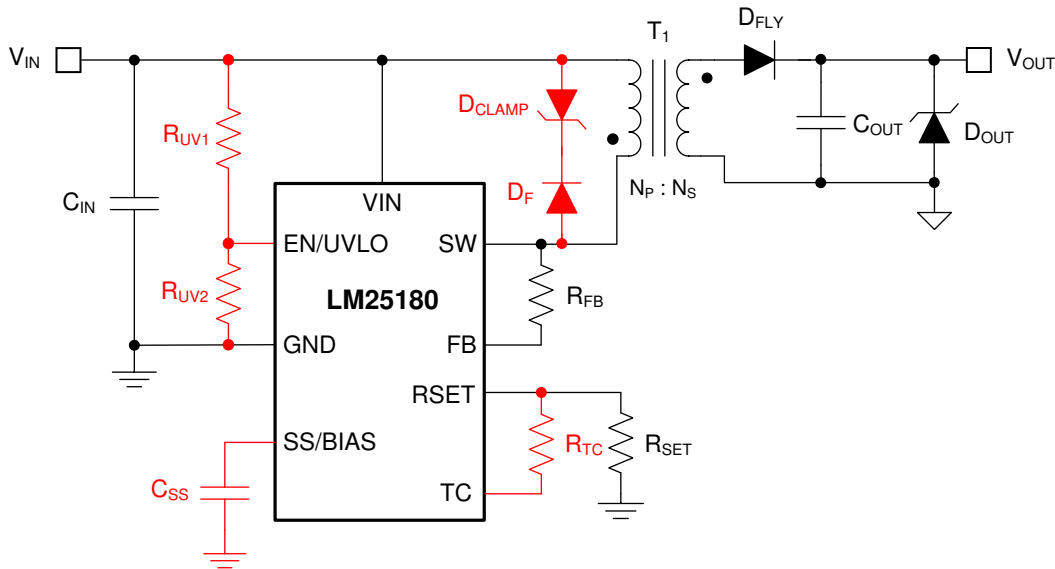

Figure 19. LM25180 Flyback Converter Schematic (Optional Components in Red)
Figure 19 shows a typical schematic of the LM25180 PSR flyback circuit. Components denoted in red are optional depending on the application requirements.
To minimize output voltage regulation error, the LM25180 senses the reflected secondary voltage when the secondary current reaches zero. The feedback (FB) resistor, which is connected between SW and FB as shown in Figure 19, is determined using Equation 8, where R_{SET} is nominally 12.1 kΩ.